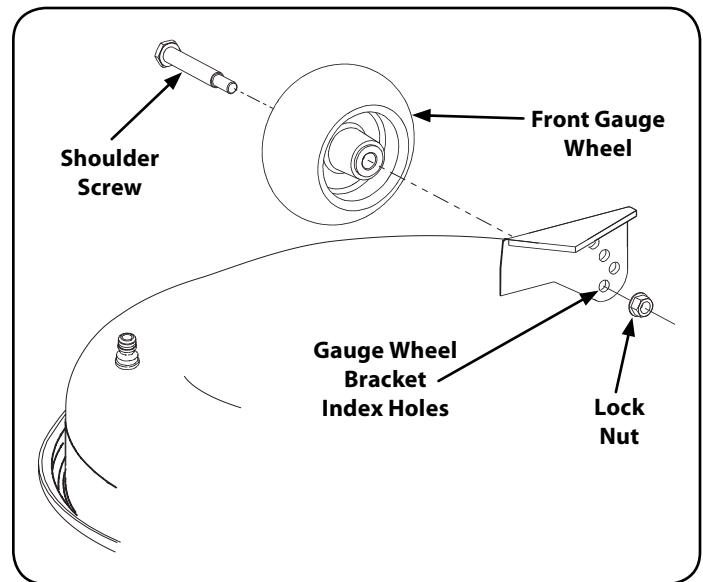

Figure 8
- a. Remove the lock nut securing one of the front gauge wheel shoulder screws to the deck. Remove the gauge wheel and shoulder screw. See Figure 8.